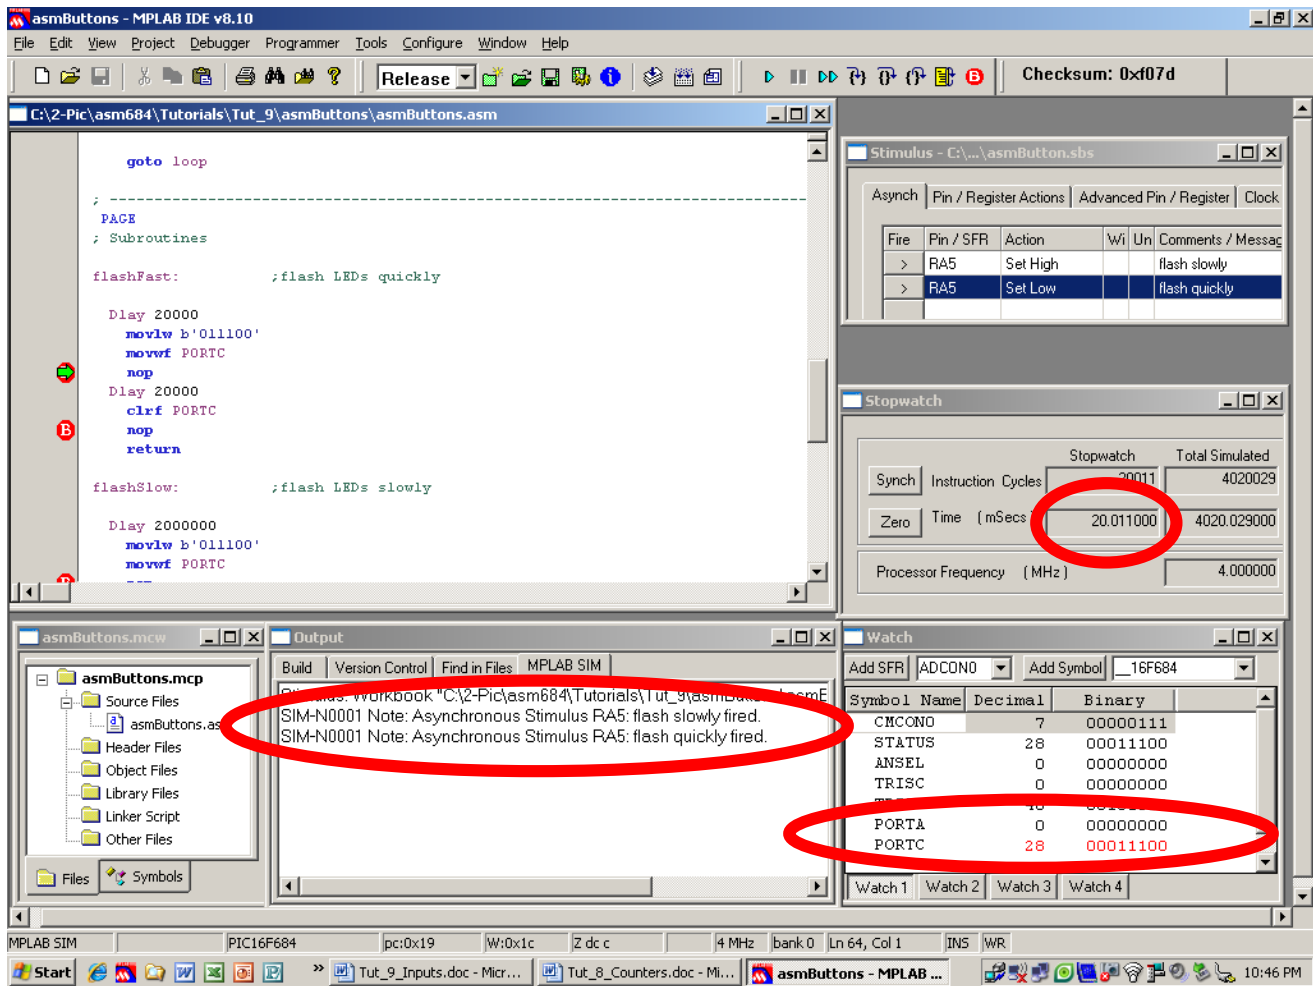

Fig 9.7
10. Simulate LED flashing quickly (part 1) (Fig 9.7):